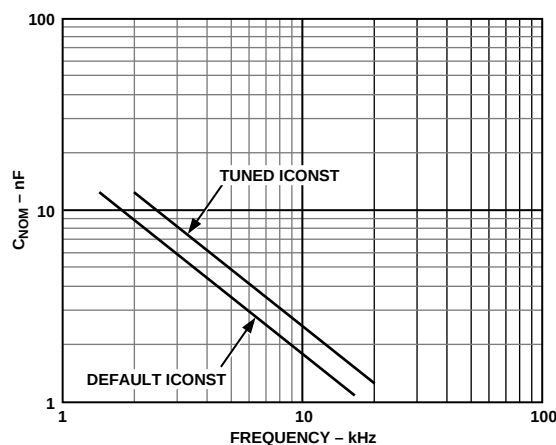

Figure 14. Timing Capacitor Selection
The charging capacitor value is selected based on the sample (PWM) frequency desired. A selected capacitor value that is too small will reduce the available resolution of the ADC by having the ramp voltage rise rapidly and convert too quickly, not utilizing all possible counts available in the PWM cycle. Too large a capacitor may not convert in the available PWM cycle, returning 0xFFFF. To select a charging capacitor use Figure 14, select the sampling frequency desired, then determine if the current source is to be tuned to a nominal 100  $\mu$ A or left in the default (0x0 code) trim state, then determine the proper charge capacitor from the appropriate curve.
1. A high quality linear ADC capacitor is selected using Figure 14 for a tuned ICONST.